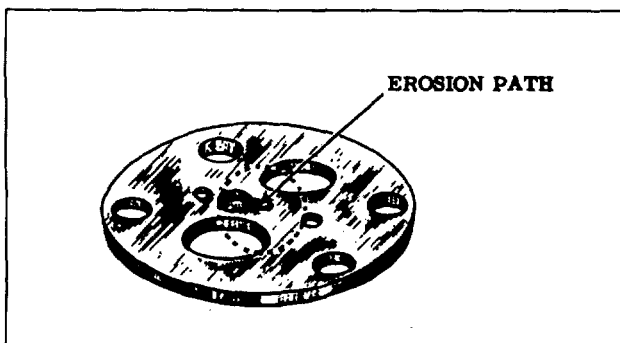

FIGURE 13 Erosion
- h. Replace worn or scored wear plates. Inspect for erosion near the relief hole on bronzed side of gear. Slight gear pattern wear is permissible. Plates showing erosion path should be replaced. (Figure 13).